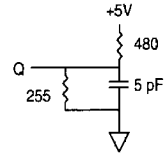

Fig. 2 OUTPUT LOAD EQUIVALENT
6. tHZCE, tHZWE and tHZOE are specified with CL = 5pF as in Fig. 2. Transition is measured ±50mV from steady state voltage.